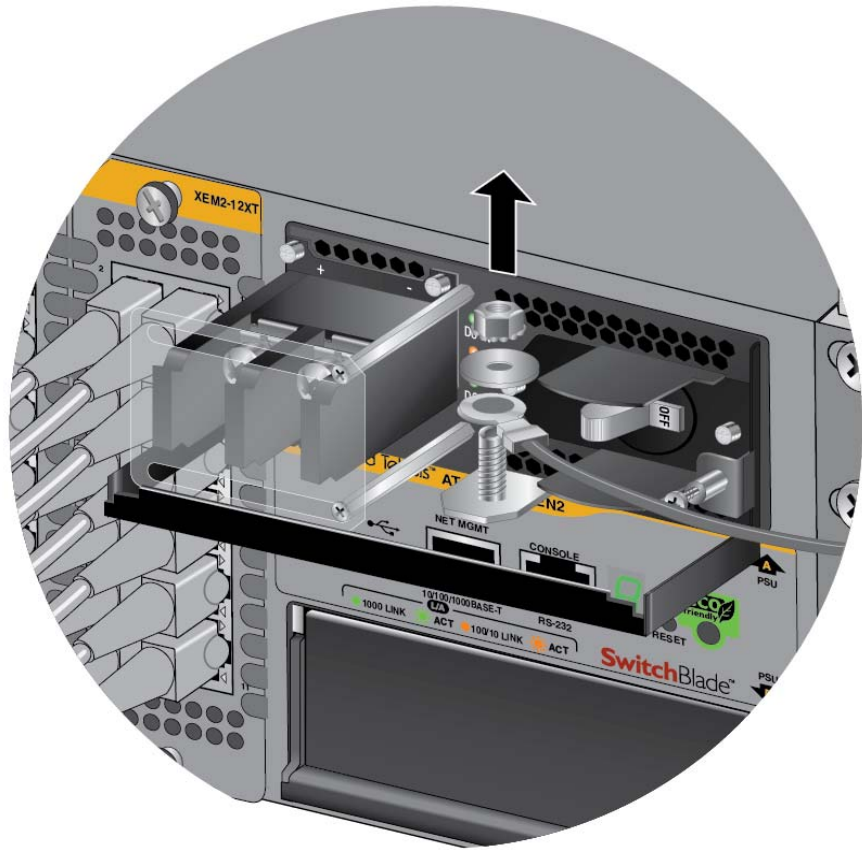

Figure 113. Removing the Grounding Wire
9. Use an 8 mm wrench to remove the grounding wire from the grounding post. Refer to Figure 113 on page 155.